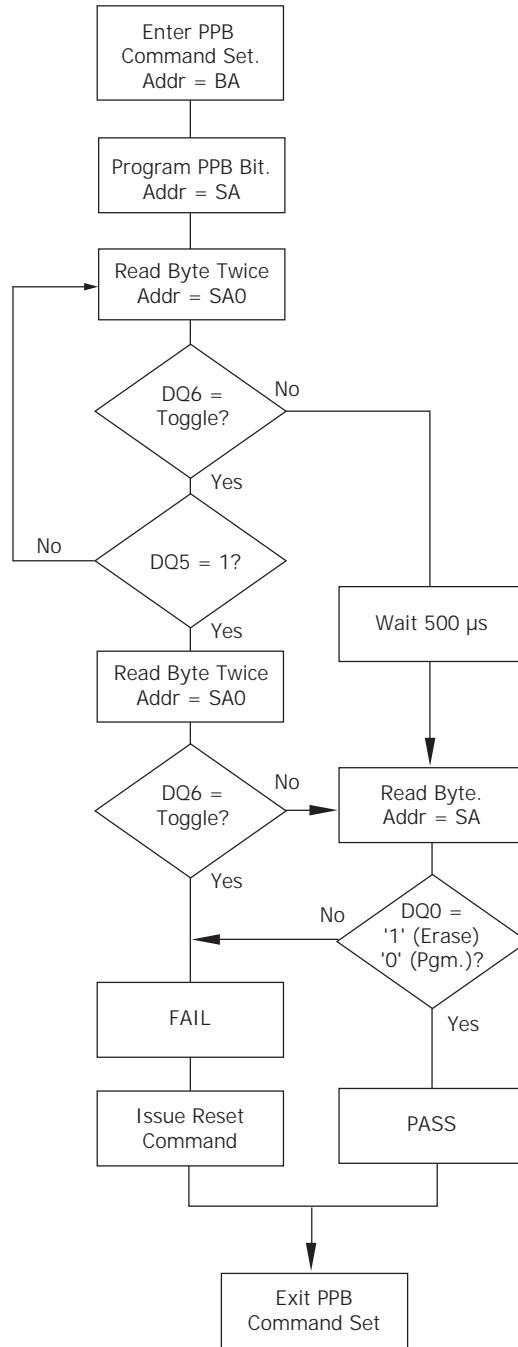

Figure 8.2. PPB Program/Erase Algorithm
11. The programming state of the PPB for a given sector can be verified by writing a PPB Status Read Command to the device as described by the flow chart shown in Figure 8.2.